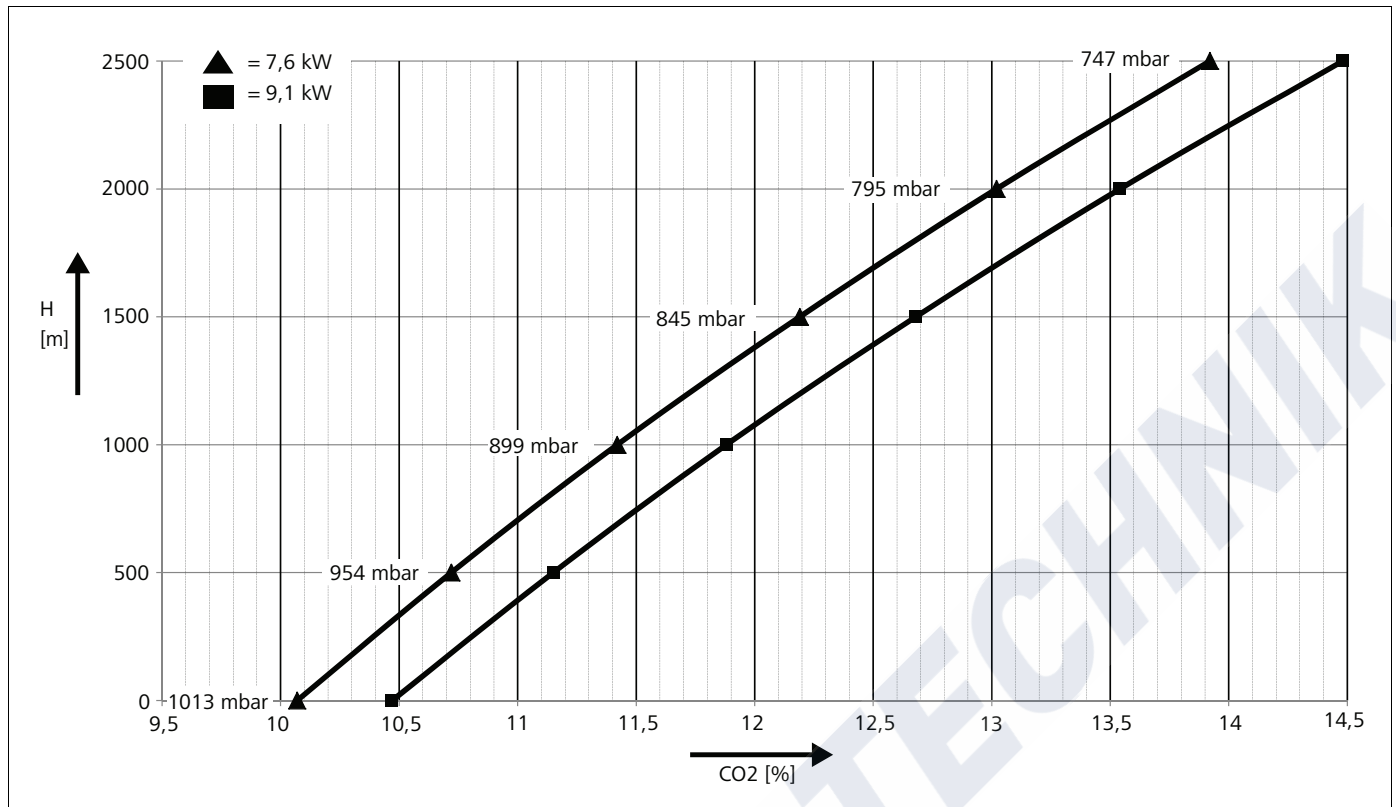

Fig. 601 CO₂ altitude correction
- Set the CO₂ value as shown in Fig. 601 on Page 602. When setting: